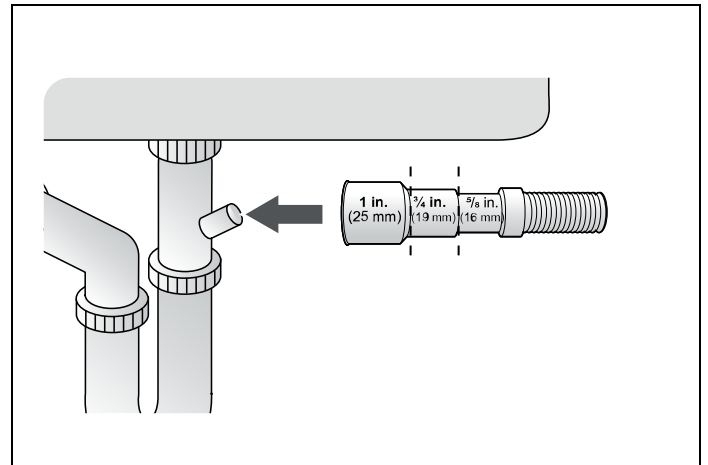

Fig. 18
- 3) Check the size of the sink drain hose connector. If needed, cut the drain hose so its end fits onto the sink connector (5/8", 3/4" or 1" - as shown in Fig. 18). If the end of the drain hose does not fit onto the drain hose connector of the sink, use an adapter purchasable at a plumbing/hardware supply store.